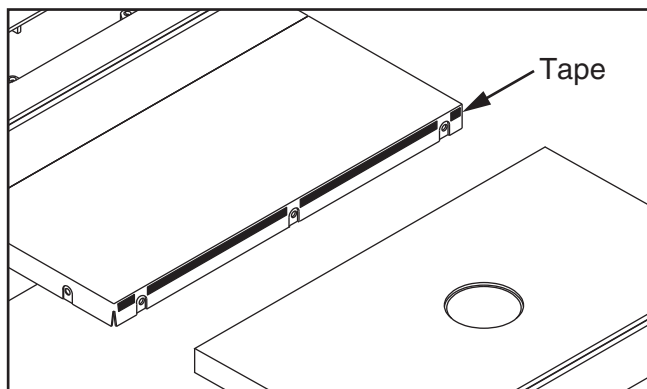

Figure 9. Using tape to shim router table down.
- If outside edge of router table wing tilts up, remove router table wing and place strips of masking tape along *top* edge of extension wing to shim router table wing down and even with table saw from side to side (see **Figure 9**).